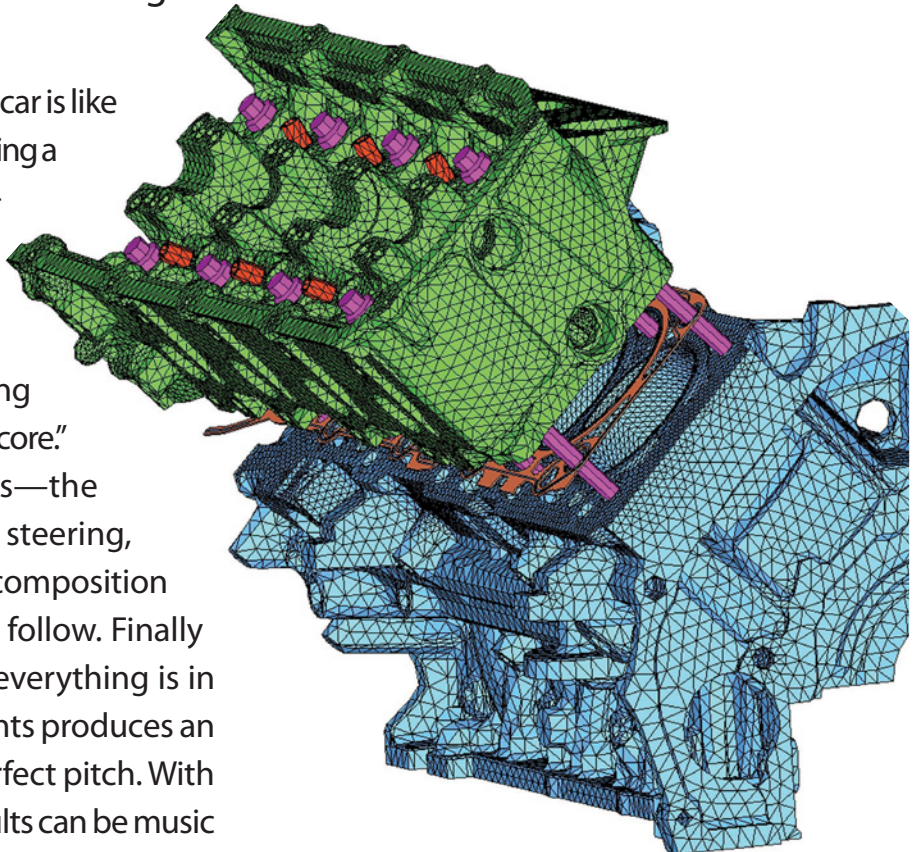

Figure 1: Model of engine block and cylinder head for a cylinder head deck lift analysis.
Figure 1: This first prototype of a pipeline inspection gauge (PIG) focused only on the high risk aspects of the geolocation algorithm. The bicycle was a creative way to move the electronic system at a rate comparable to the PIG.
The mechanical design of the PIG required a complex suspension system to guarantee the survival of the unit in extreme conditions, so to avoid schedule delays, they devised a platform to test the algorithms under development. In figure 1 you see an NI CompactRIO controller and sensors on a bicycle, which they used as a first prototype to map the path the same way they would with the PIG inside a pipeline.
- Five analysis steps, including press-fit of valve seats, bolt down of a cylinder head with steel plates and, finally, peak combustion pressure application in each cylinder head respectively (see Figure 1).